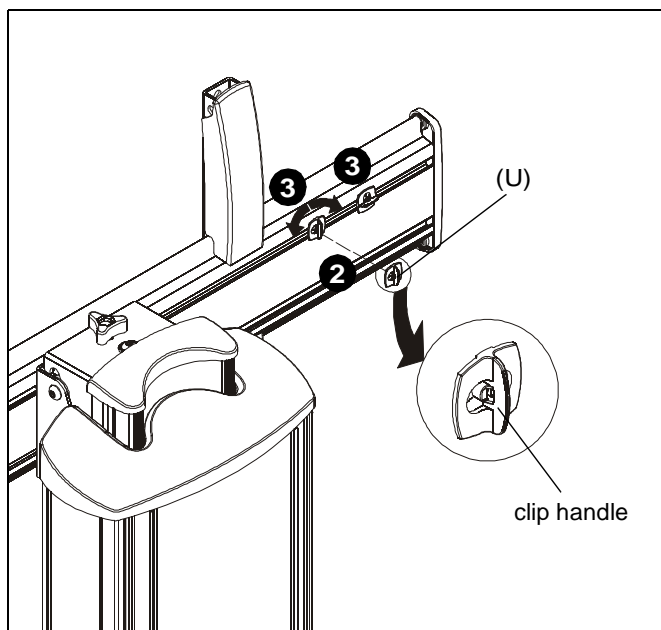

Figure 11
2. Place FCA clip (U) into groove on back of Fusion mount with clip handle in a vertical position. (See Figure 11)
3. Rotate FCA clip (U) 90° in either direction until clip handle is in a horizontal position. (See Figure 11)